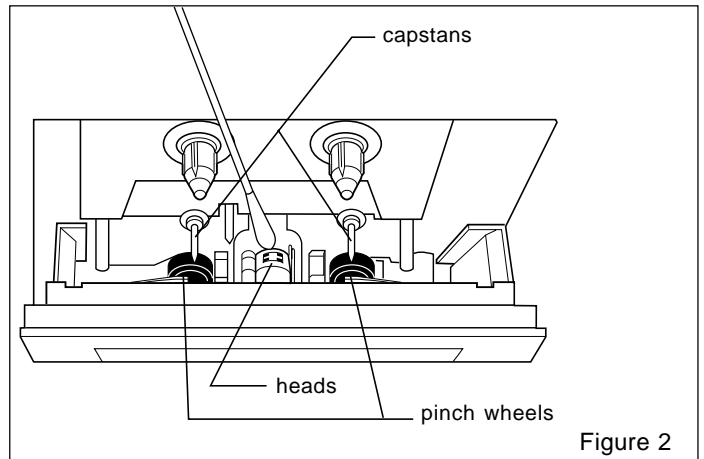

Figure 2
3. As shown in Figure 2, clean the parts which come in contact with tape, including the heads, capstans, tape guides, pinch wheels, etc., with a cotton swab soaked in head cleaning solution.